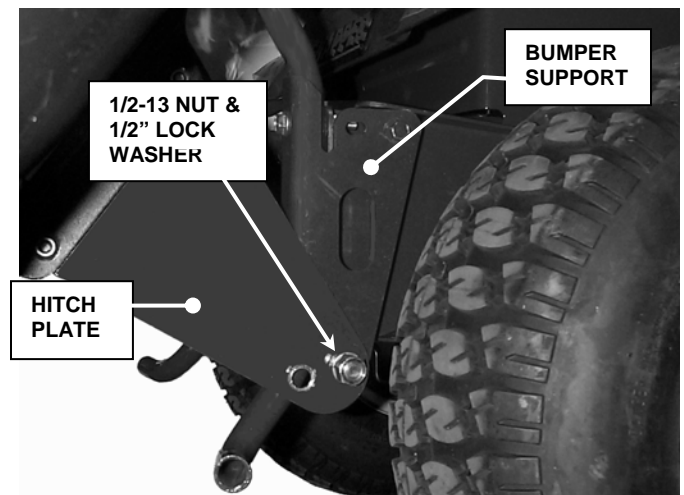

FIGURE 1.6
- C. Align hole in Hitch Plate with hole in Bumper Support. Insert (1) 1/2-13 x 1" hex bolt through holes with head on inside of Bumper Support. Place (1) 1/2" Internal Tooth Lock washer and (1) 1/2-13 hex nut on bolt (washer and nut on outside) and tighten securely. See Figure 1.6.
- E. Attach left end of baffle to Front Cover. Place (1) 3/16" Flat Washer over #10-24 x 3/4" Flange Lock Bolt and insert from inside cover. Secure with (1) #10-24 Flange Lock Nut. Tighten nut securely.